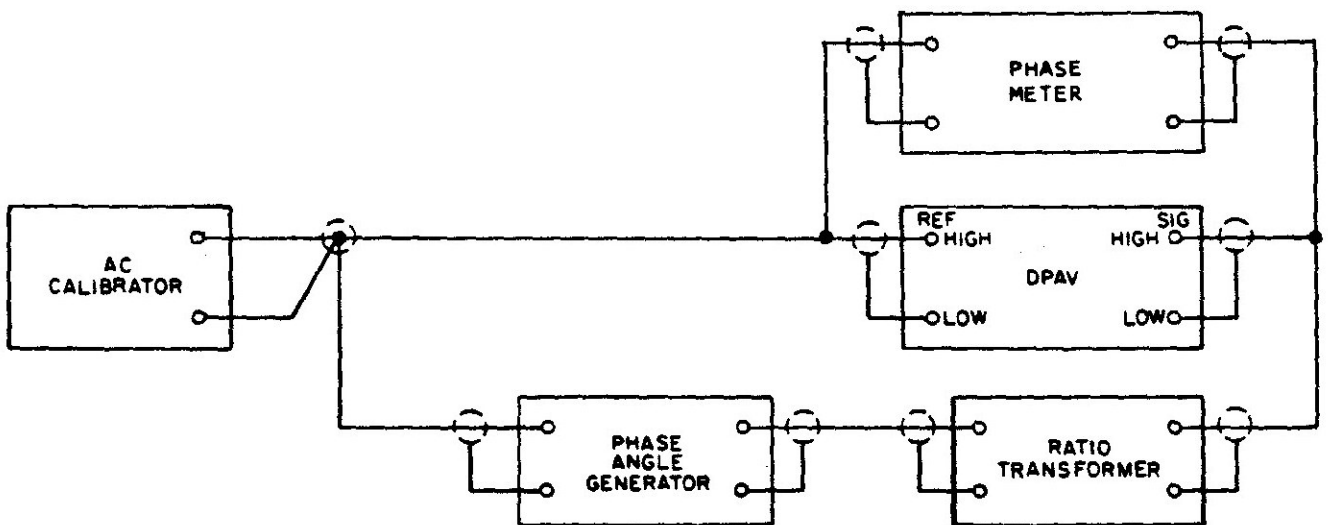

Figure 6-2. Phase Mode Troubleshooting, Test Set-Up
a.	Set up test equipment as shown in figure 6-2, without differential voltmeter.